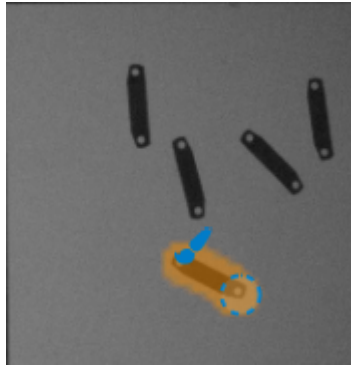

Figure 21: Draw a part shape region
- Click **Brush** to draw a region that covers a feature of the reference part. See figure 21.